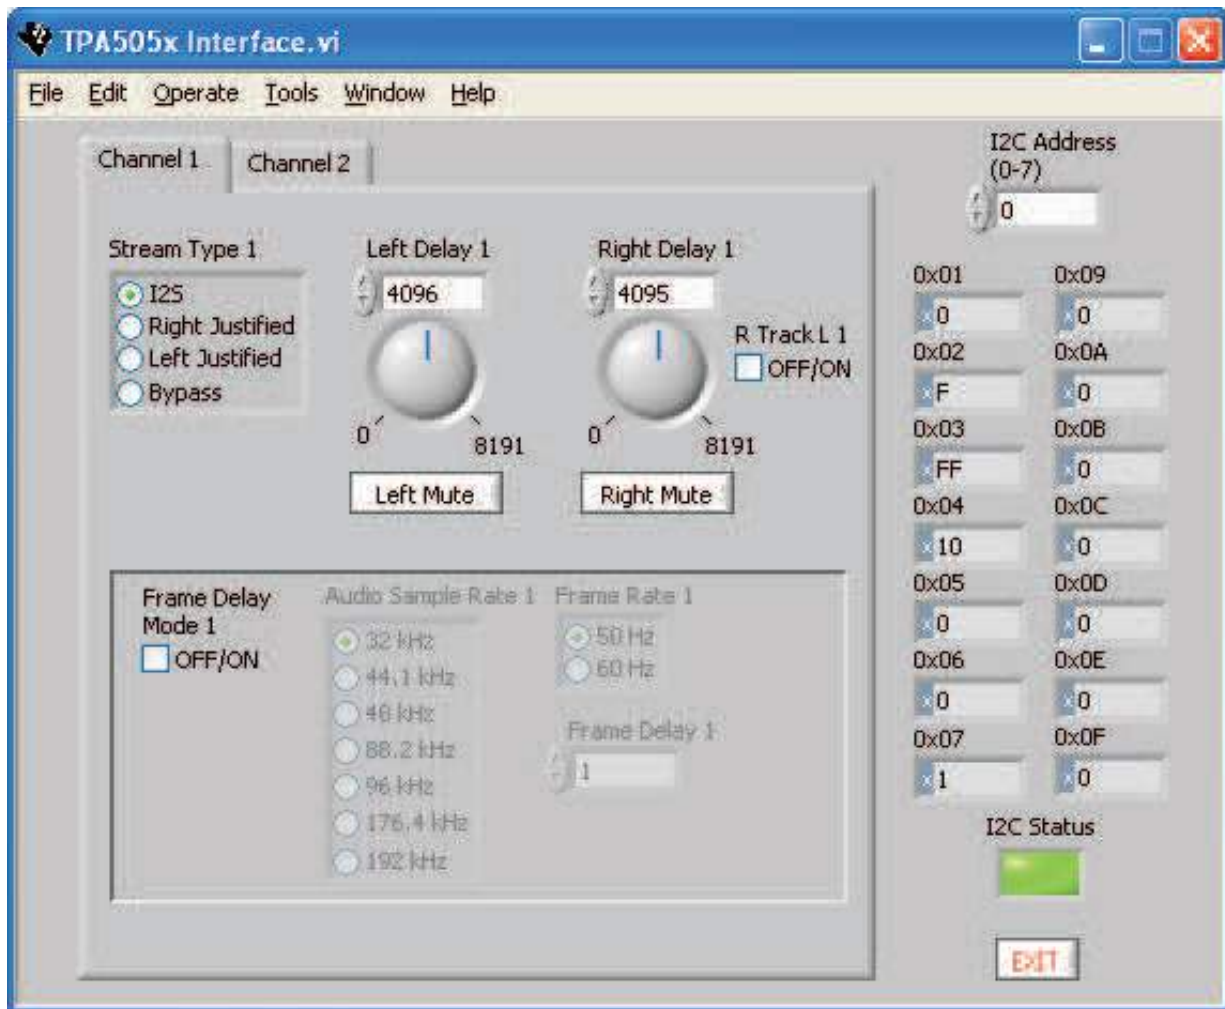

Figure 1. TPA5050 in I2S Mode With Separate Delays for Left and Right Channels
3. The right and left delays can be adjusted by turning the knob to the desired number of delay samples, or simply entering the number in the box provided (see Figure 1).